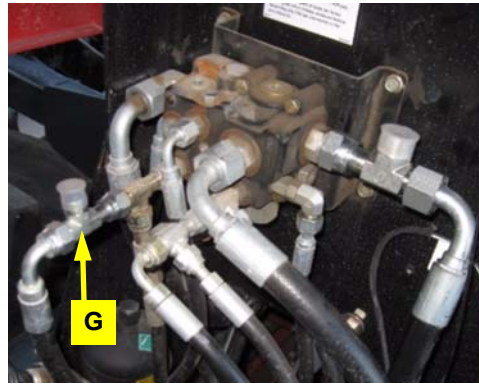

Figure 3d: Installed tank line run tee
- d. Install the run tee **G** then reattach the tank line to the end of it (Figure 3d).